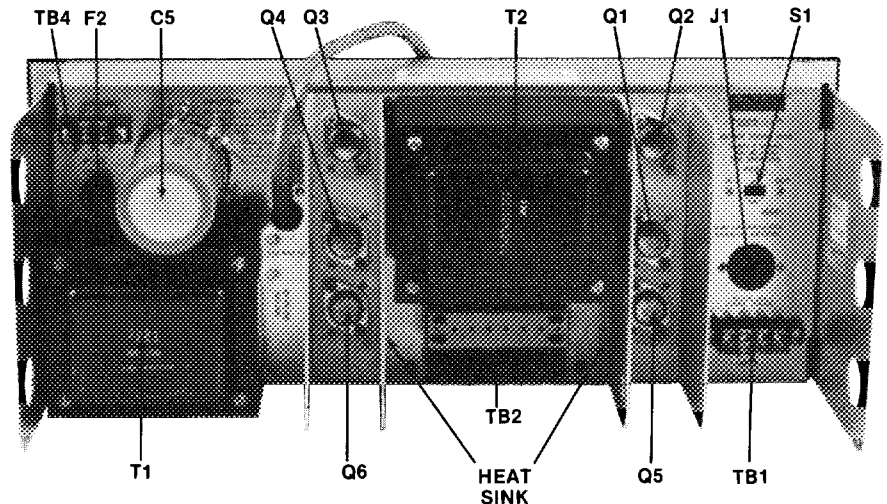

Figure 5. Component Locations on Rear of Chassis
- (b) Remove two screws securing Power Drive PCB to chassis and lower PCB on hinged connector. Connect a millivoltmeter across resistor R2 (see Figure 5). Adjust R136 for meter reading of 400 mV. Connect millivoltmeter across resistor R3 and adjust R137 for meter reading
The ac primary power fuse is mounted on the front panel. The battery power fuse is located on the rear of the chassis (see Figure 5). If fuse replacement is required, determine and correct any cause of failure before replacing fuse. Install an identical fuse (see PARTS LIST) by unscrewing fuse holder, replacing fuse and resealing fuse holder.